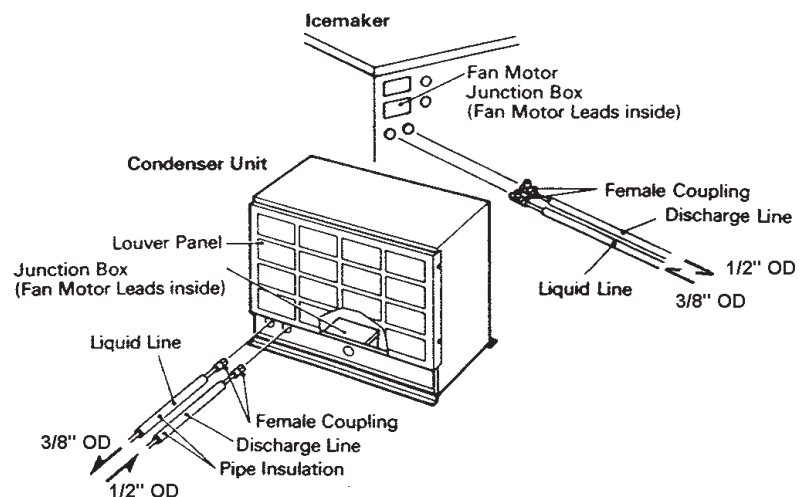

Fig. 7
- 3) Install enough length of two copper tubings provided with Parker quick connect couplings between the icemaker and the condenser unit. The two copper tubings should be insulated separately. See Fig. 7.